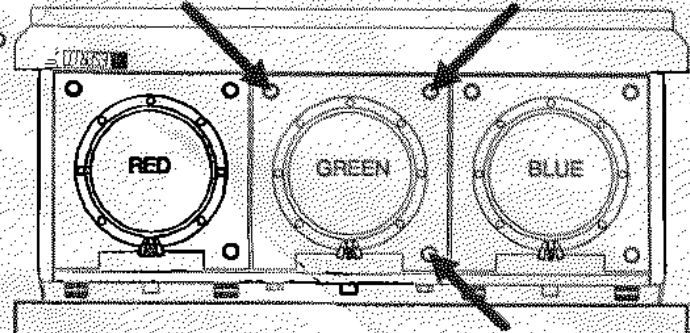

FIGURE 8-3. STEP 1 AND 2.
- **STEP 1.** Tighten all three lens adjustments, then turn counterclockwise 3/4 of a turn. Refer to Figure 8-3